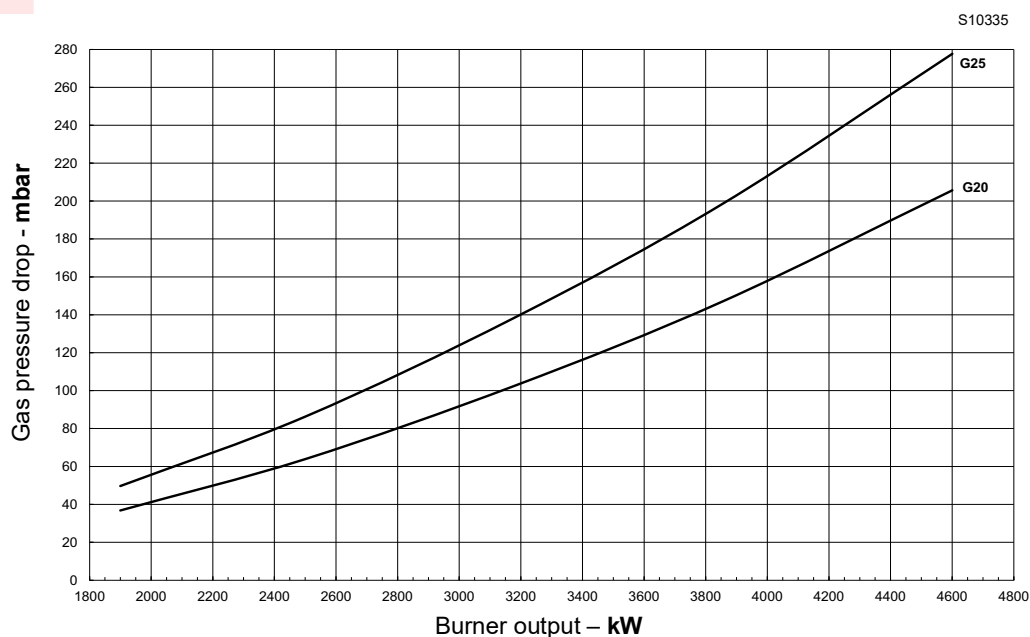

Fig. 23
- Enter the mbar scale (Fig. 23) and read the corresponding output by reading on the dashed line.
- Read the pressure at the test point P1)(Fig. 23).
Pressure required at test point P1)(Fig. 23).
- Fit a U-type pressure gauge or a differential pressure gauge (Fig. 26), with socket (+) on the gas pressure of the pipe coupling and (-) in the combustion chamber. The manometer readings are used to calculate MAX burner output using Fig. 22 and Fig. 23 on page 26.